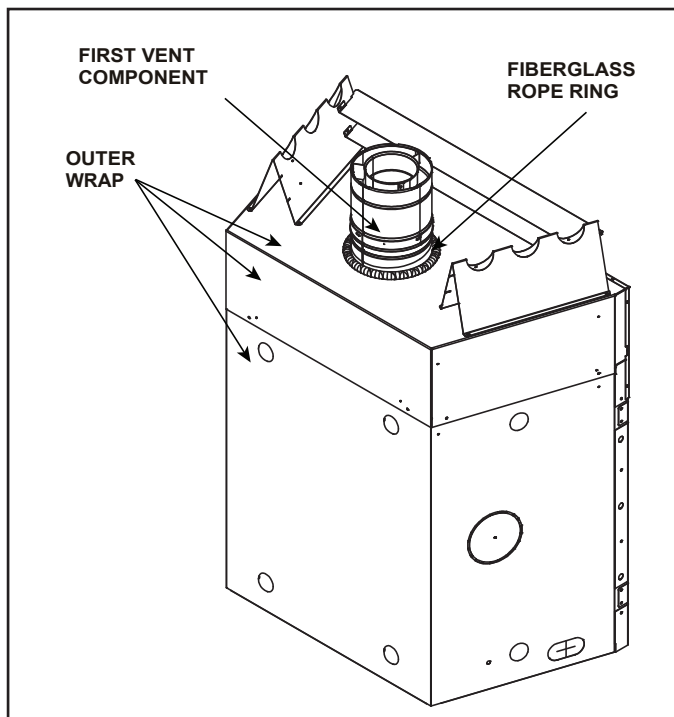

Figure 7.4 Fiberglass Rope Ring
2. Make sure that the fiberglass rope ring shipped in place seals between the first vent component and the outer appliance wrap. See Figure 7.4.